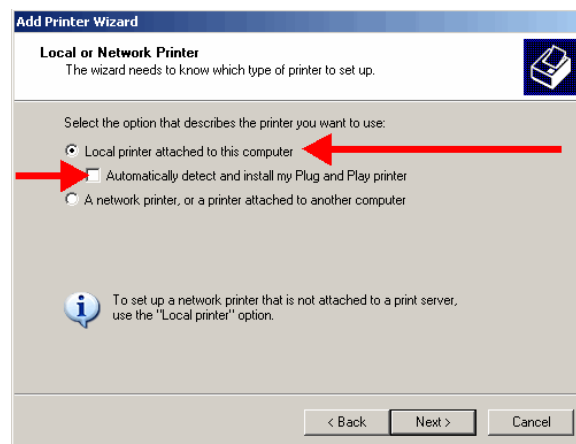

Figure 12
16. Choose the Local Printer option, but UNCHECK the setting that allows Windows to detect Plug and Play devices. (Figure 12)